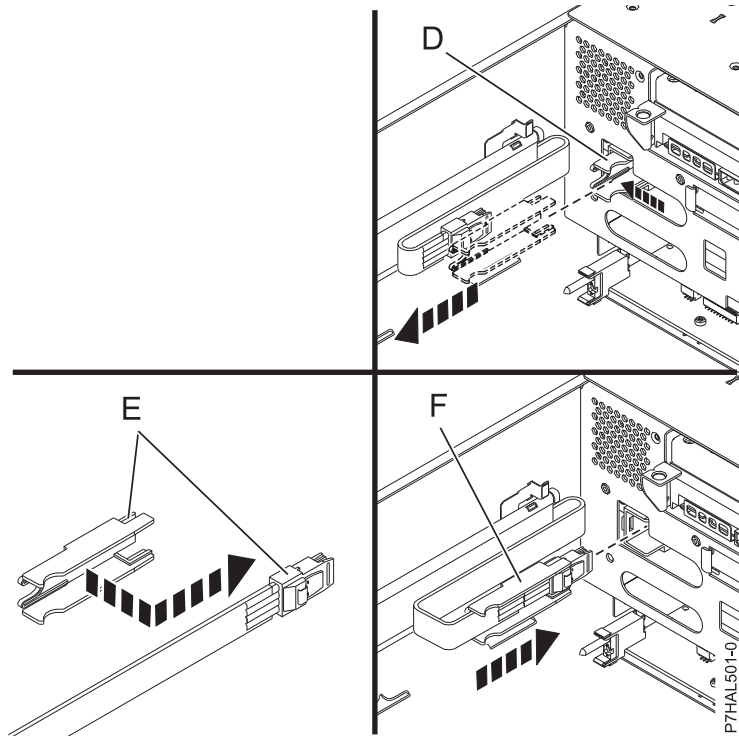

Figure 143. SAS cable connections
**Tip:** Refer to Figure 143 on page 161 to complete this step.